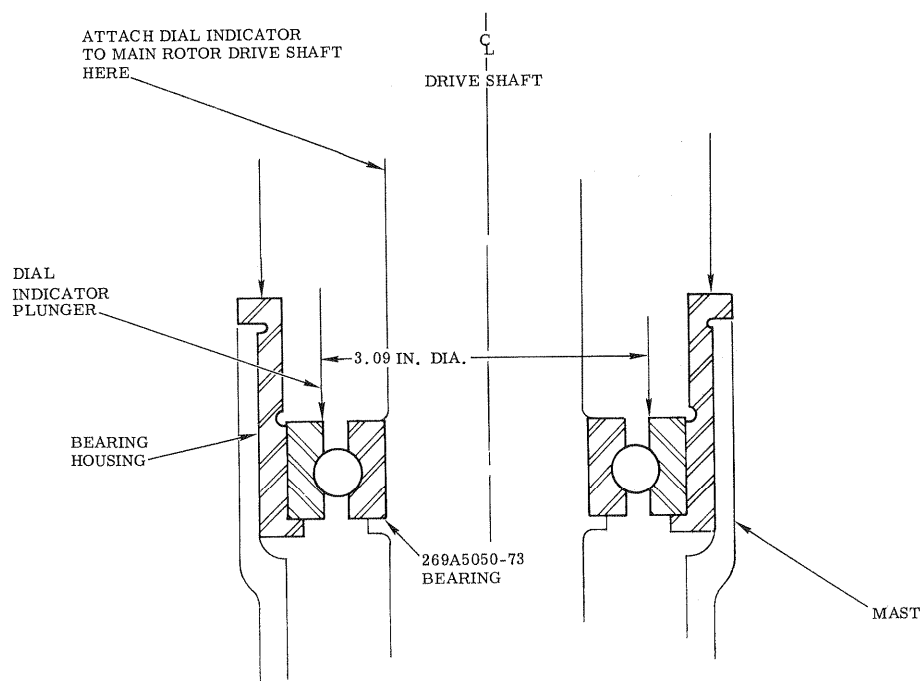

FIGURE 2. TIR CHECK - MAIN ROTOR THRUST BEARING
- d. Check for proper bearing alignment of thrust bearing, by attaching dial indicator to main rotor shaft with indicator plunger contacting upper surface of thrust bearing outer race at dimension shown in Figure 2.
r. Pack cavity between spacer tube and bearing housing 75% full with AeroShell No. 7 or equivalent; do not apply grease to threads of housing (See Figure 2).